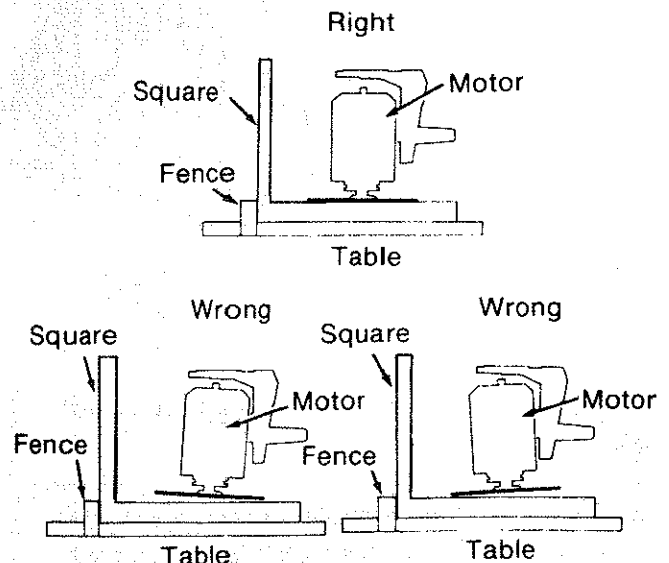

Fig. 121
8. If the square is flush with the *blade* after each rotation (Figure 121) go to step 18, or
- If there is a gap between the square and the *blade* after any rotation (Figure 121) go to step 9.